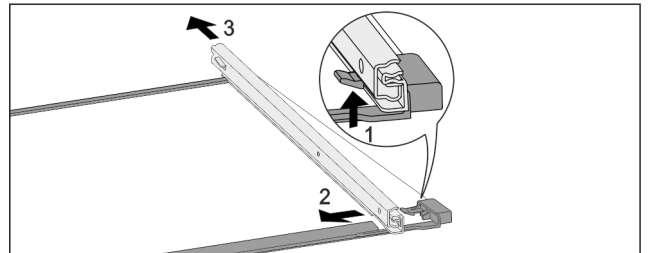

Fig. 107 Glass shelf with rails
- ▶ Push up front click-in hooks. Fig. 107 (1)
- ▶ Move the pull-out rails to the side Fig. 107 (2) and to the rear Fig. 107 (3).